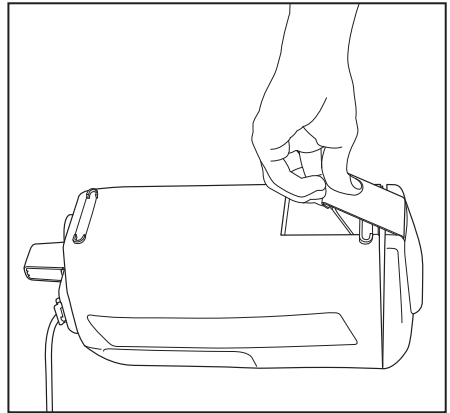

Fig. 17
- Turn the vacuum over. Lift up the cover retaining clip to remove the cover (Fig. 17).